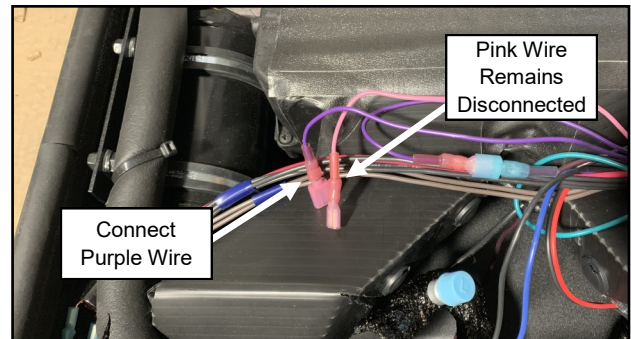

Fig. 3.13 (Connect Purple wire in A/C)
- 3.13 Connect the other end of the purple wire to the mating terminal on the A/C unit harness. The wire is located right next to a pink wire and they are coming from the diode connected to the solenoid trigger. Figure 3.13.